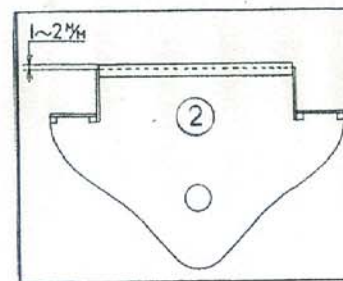

Fig. 5A Cleat locations
Apply adhesive double-coated tapes at sections (on bulkhead ② and rear frame board ⑤) indicated by arrows of Photos 12 and 13. Temporarily set cleats A and B (5 × 5 mm wood bar) so that they are leveled by 1 ~ 2 mm above bulkhead ② and rear frame board ⑤ as shown in Figs. 5A and 5B. Then bond the hatch ⑩ to cleats. After adhesive is dried, dismount the hatch. (Also remove adhesive double-coated tapes.)